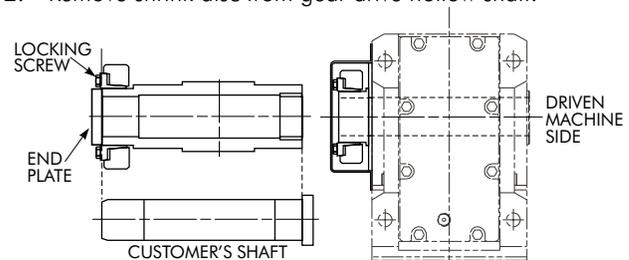

FIGURE 10
4. Draw the gear drive onto the driven shaft (See Figure 10).
6. Fit shrink disc on gear drive hollow shaft to position shown on in Figure 10 on Page 7.
Note: When the hollow output shaft is to operate in a vertical position it is essential that the shaft of the driven machine is provided with a shoulder. When the thrust load is not taken by the shoulder on the driven shaft, an end plate, a shown in Figure 10, must be fitted.